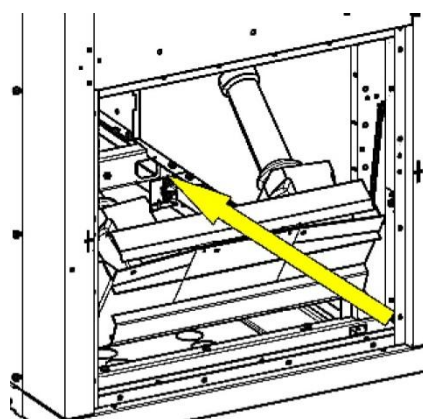

Fig75. Rear access to the cable compartment
- ✓ Now, it is possible to reach the cable compartment (fig75).